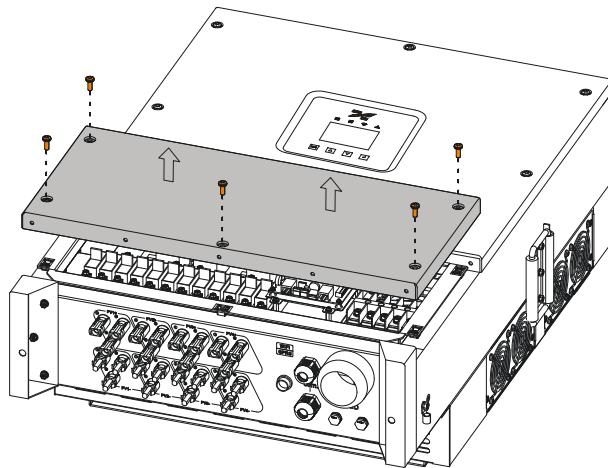

Figure3-23 Dismantle cover
Step 1 Dismantle cover, as shown in Figure3-23.